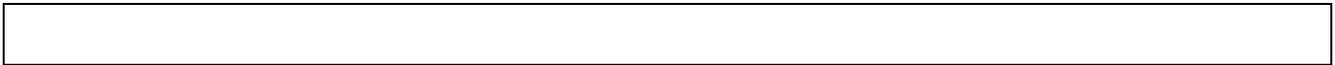

Figure 4-5. Selection of Debug Configuration
1. Choose `rzg2l_cm33_rpmsg_linux-rtos_example Debug_Flat` or `rzg2l_cm33_rpmsg_linux-rtos_example Release_Flat` from the drop-down list indicated by a red arrow in Figure 4-5.